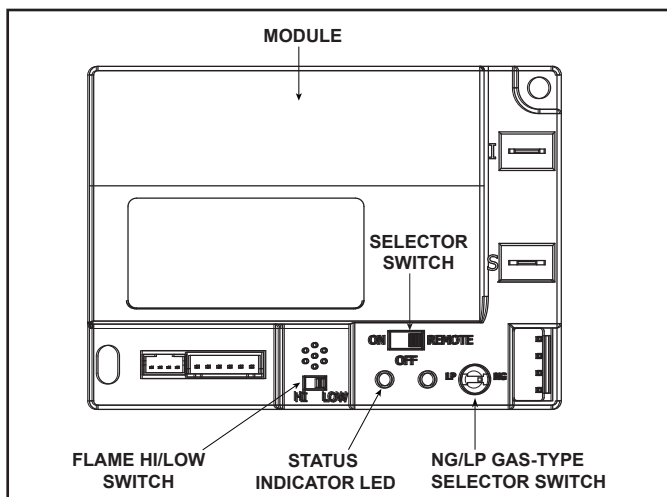

Figure 3.6 Control Module
1. The control module has an ON/OFF/REMOTE selector switch that must be set. See Figure 3.6.
2. If using a wired wall switch with the module in REMOTE mode, the flame output can be adjusted with the HI/LO selector switch on the module. See Figure 3.6. Note that the flame HI/LO selector switch will become inactive once an optional remote control (RC300) is programmed to the control module. Note that the control module will always ignite the fireplace on HI and remain so for the initial 10 seconds of operation. If the HI/LO is switched to the LO position, the flame output will automatically drop to the lowest setting after the flame has been established for 10 sec. After this 10 second period, the flame can be adjusted from HI to LO with the switch.
- Locate the module selector switch. (See Figure 3.6).
- Wait five (5) minutes to allow possible accumulated gas to clear.